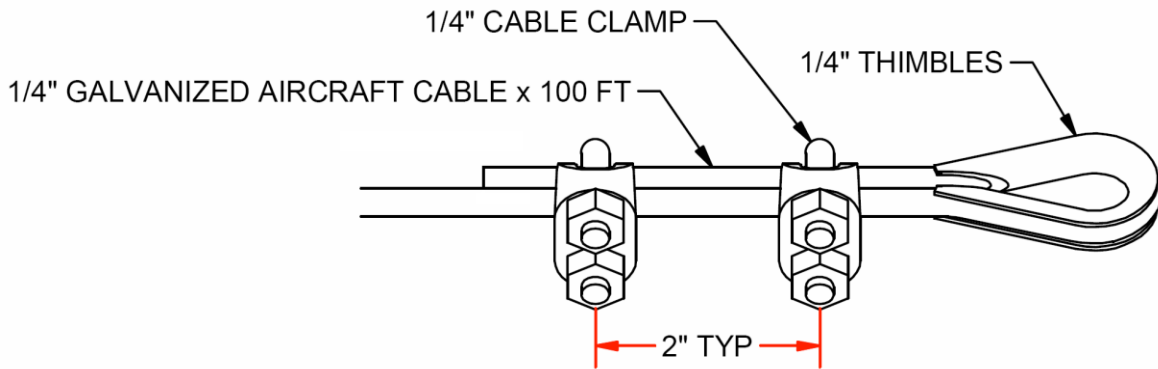

Figure 5: Assemble Suspended End Loops
- 6) Make up the 72, 1/8" suspending cables, as shown in Figure 5. The overall length (from thimble to thimble) is determined by taking the height of the support cables and subtracting 12" less than the height of the net. Example: If the support cables are at 20 ft above the floor and the net is 12 ft high, make the suspending cables 9 ft long (20 ft minus 11 ft). (see step 3). Tighten the cable clamps using a 5/16" nut driver.